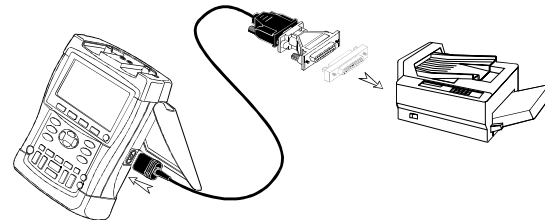

Figure 36. Connecting a Serial Printer
- The Optically Isolated RS-232 Adapter/Cable (PM9080) to connect a serial printer to the OPTICAL PORT of the test tool. (See Figure 36.)